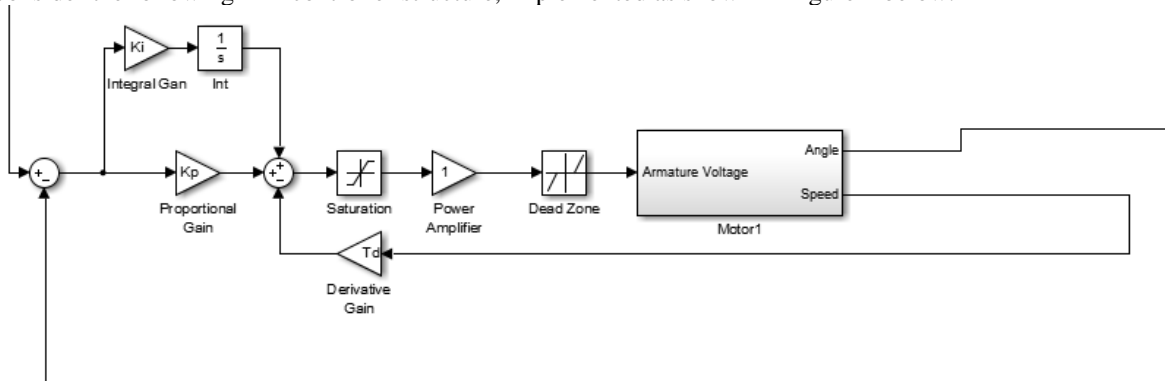

Figure 1 SIMULINK Configuration for PID Controller.
Consider the following PID controller structure, implemented as shown in Figure 1 below:
4. Design a P+Rate Feedback Controller to meet your control objectives. To do this, you will have to first approximate your closed loop system with a **linear** 2nd order transfer function model reflecting the structure shown in Figure 1 (i.e., ignore the saturation limits and deadband effects), and work out the closed loop transfer function. Attempt to position the closed loop poles as best as possible to achieve all the performance objectives².